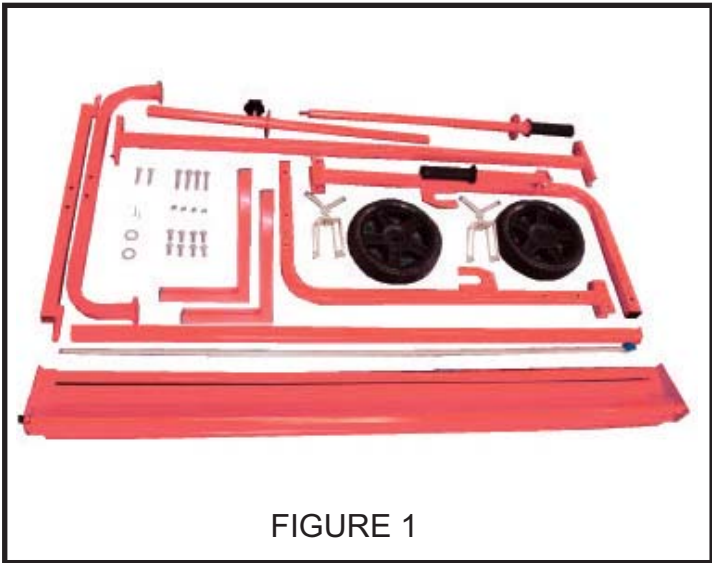

FIGURE 1
- 1) Carefully unpack all of the components and compare your parts with the parts list included, to ensure that you have all the pieces before beginning assembly as shown in figure 1. If any pieces are missing, contact your point of purchase immediately.